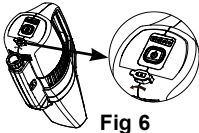
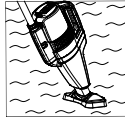

Fig 6
Fig 6.1
1. Make sure the charging receptacle is securely covered with the rubber flap first. See fig 6. Press the power button first, the battery indicator light will turn on. Then place the vacuum in the water. See fig 6.1.